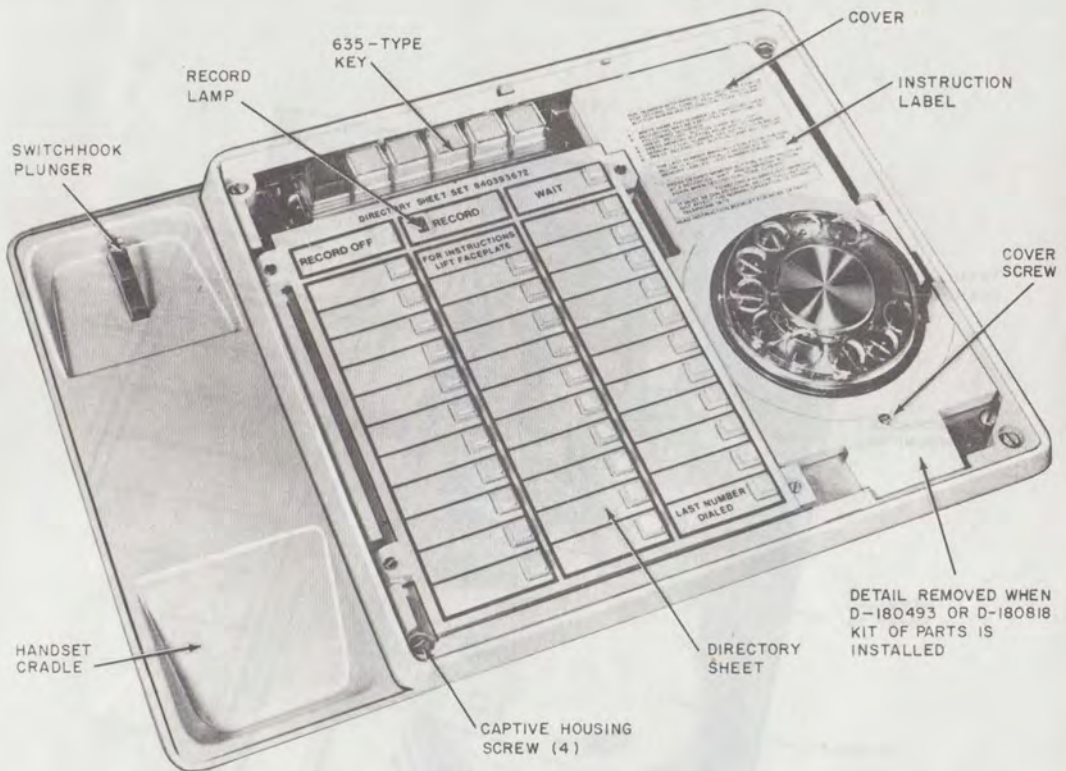

Fig. 2—872A1M Telephone Set—Faceplate and Handset Removed
## 2.06 Operating Features (Fig. 2).
**3.05** The directory sheets (Fig. 2) fit over the buttons of the memory and are held in place by the faceplate. Additional sheets are available in directory sheet set, 840393672.